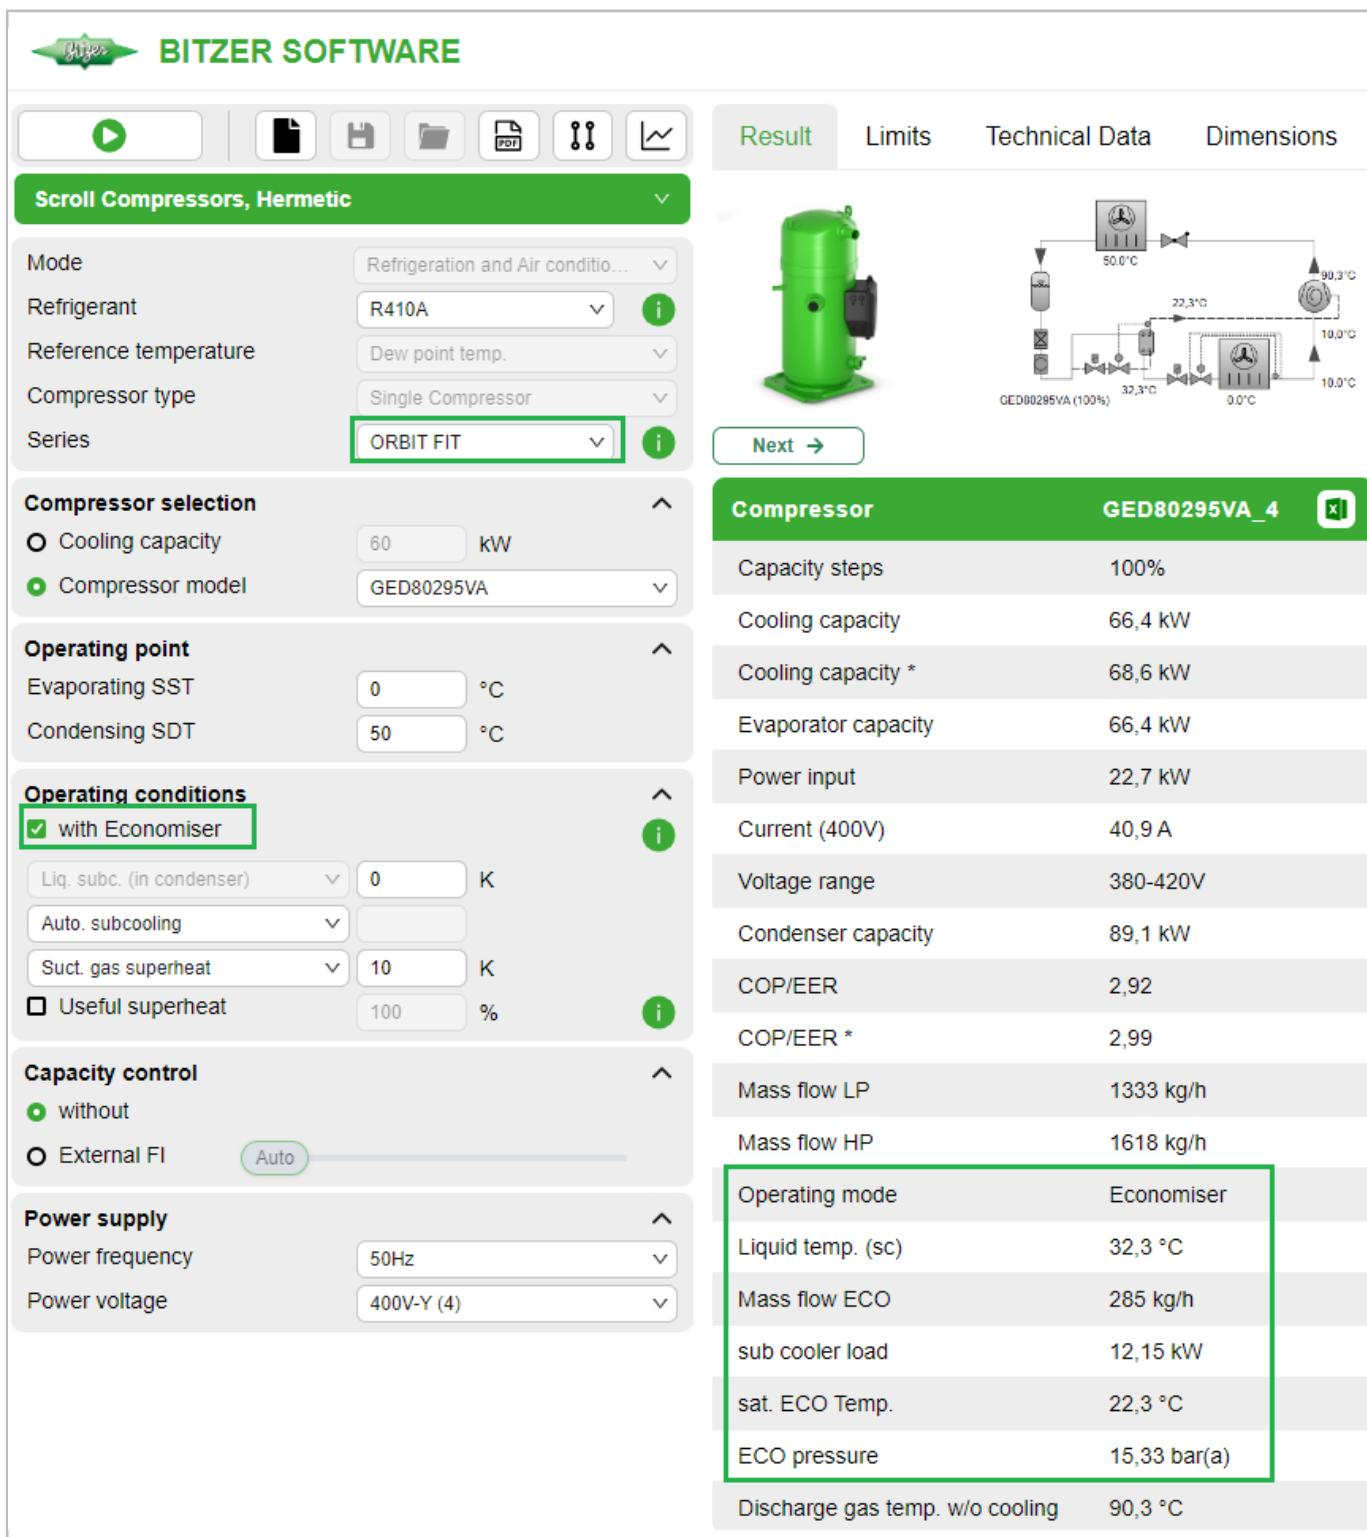

Fig. 9: Performance data for economised scroll compressors in the BITZER SOFTWARE
- In the BITZER SOFTWARE, relevant design parameters such as mass flow rate and pressure difference can be obtained (*see figure 9, page 25*).